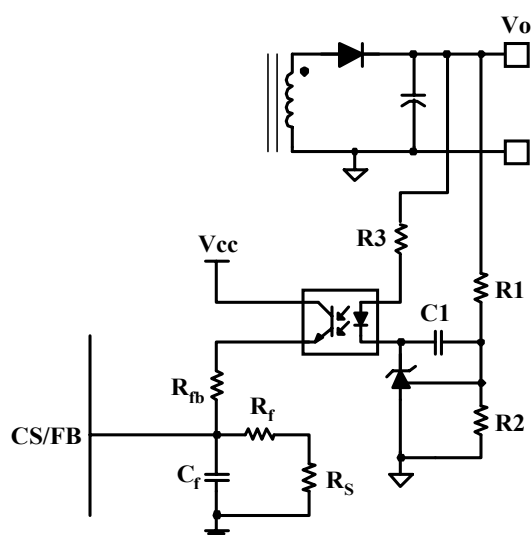

Figure 15. Output Voltage Compensation Circuit
To control output voltage, a KA431 and an optocoupler are used as shown in Fig. 15. Equation (15) is the compensator transfer function. In this equation, k is the current transfer ratio of the optocoupler and this value is nonlinear.